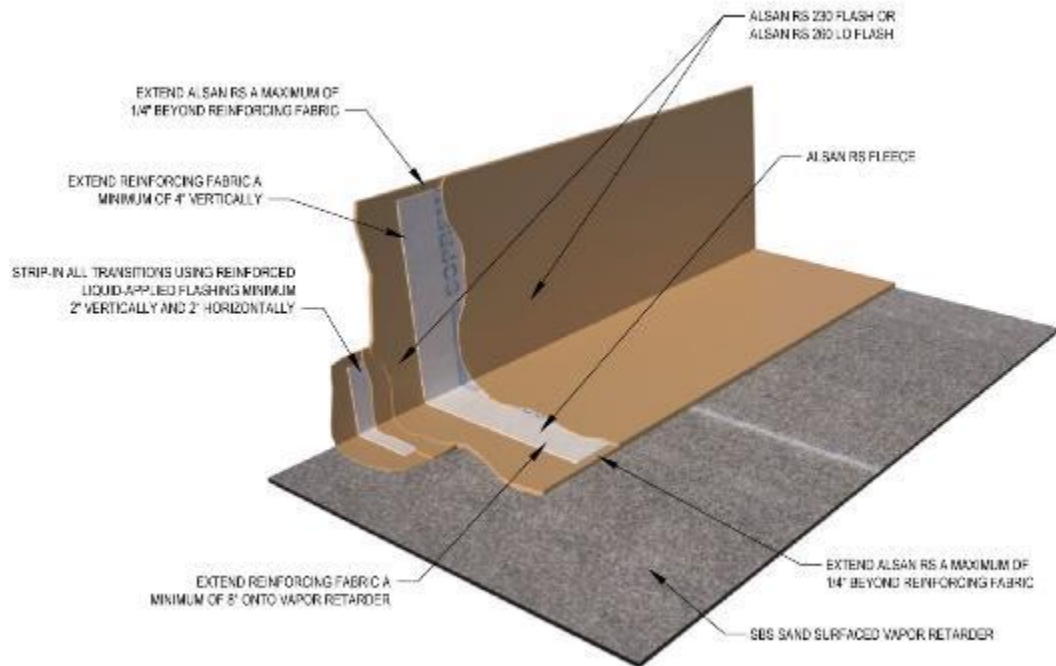

Figure 4.1a ALSAN® RS Wall/Curb Flashing on Vapor Retarder
- SOPREMA® offers ALSAN® RS 230 FLASH or ALSAN® RS 260 LO FLASH liquid-applied, reinforced flashing systems to flash SBS modified bitumen vapor retarders at roof transitions, terminations and penetrations. Refer to Figures 4.1a through 4.1c.